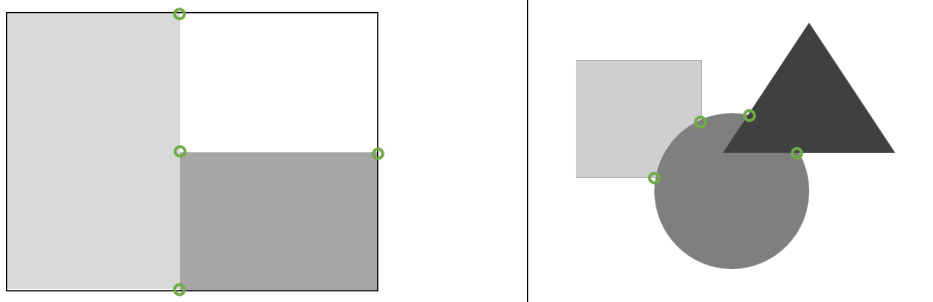

Figure 4: Examples of control points, which are marked with small circles.
**Step 4. Search & label control points.** Here, control point is defined as the intersection or meeting point between edges in the images (Figure 4). These control points will not change their positions (x, y coordinates) in the following steps. This step uses a subroutine (`getCtrlPnts.m`) developed by me to search and label control points.